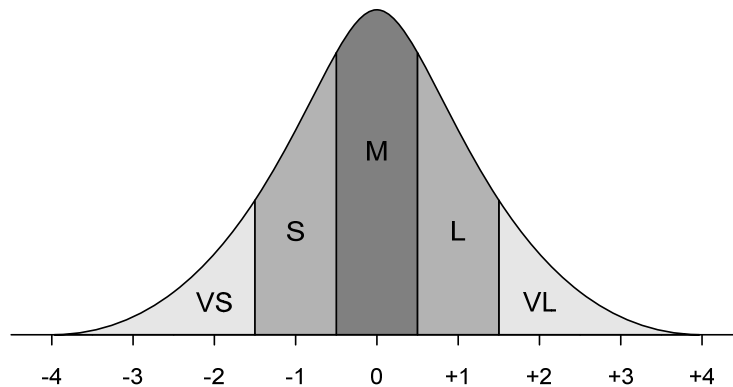

Figure 1. Ranges of Standard Deviations
The medium range (M) is the area from -0.5 standard deviations to +0.5 standard deviations from the mean, as shown in Figure 1. Assuming that the data approximates a normal distribution, the likely number of parts that are within plus or minus 0.5 standard deviation of the average value is 38.3 percent. Following similar logic, the range percentages area are as follows: